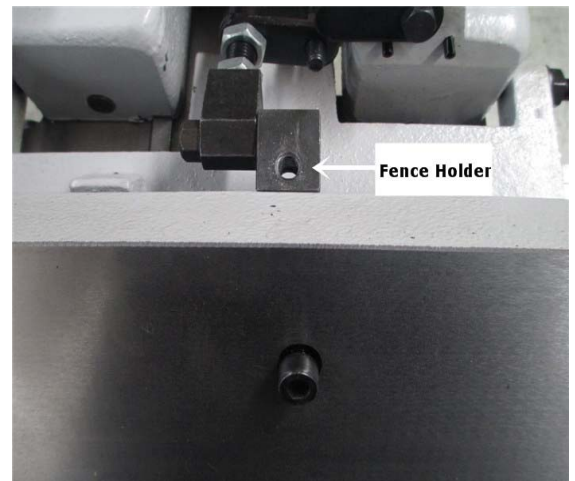

Figure 24
1. Loosen and take off the cap screw attached on the fence holder. (Fig. 24)
2. Line up the hole on the fence and thread on fence holder. (Fig. 24)